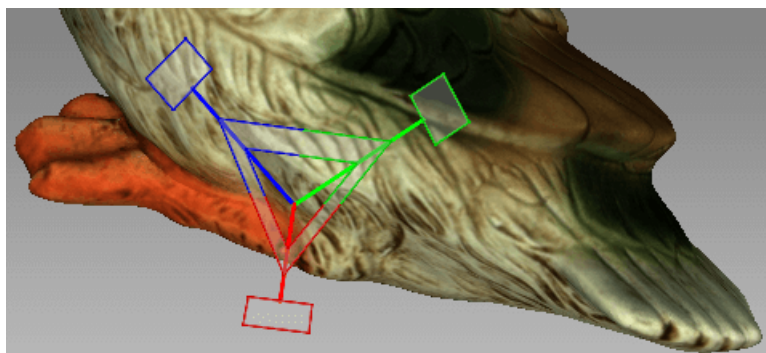

Figure 127: Scaling control
- Drag the origin of the control (Figure 127) or either of its round ends in the *3D View* window.